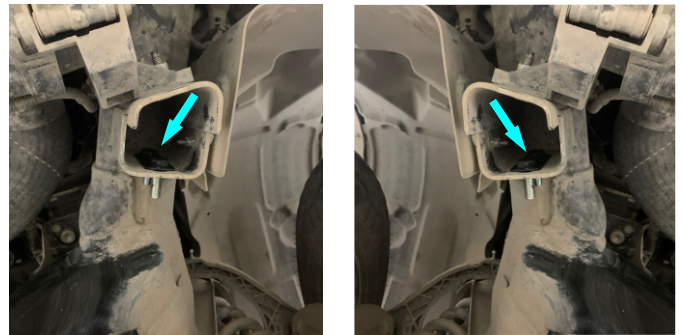

Fig. 4
4. Install insert nuts M10 (item B) on both sides as shown in fig.4.